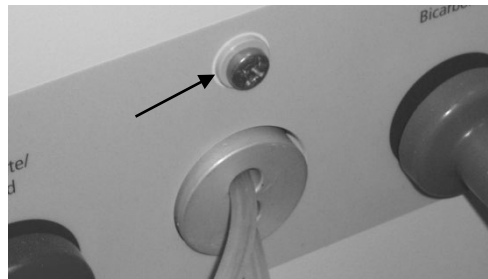

Figure 15 – Front Hydraulic Screw Location
54. Using Figure 15 locate and remove the front hydraulic screw holding the hydraulics into the cabinet